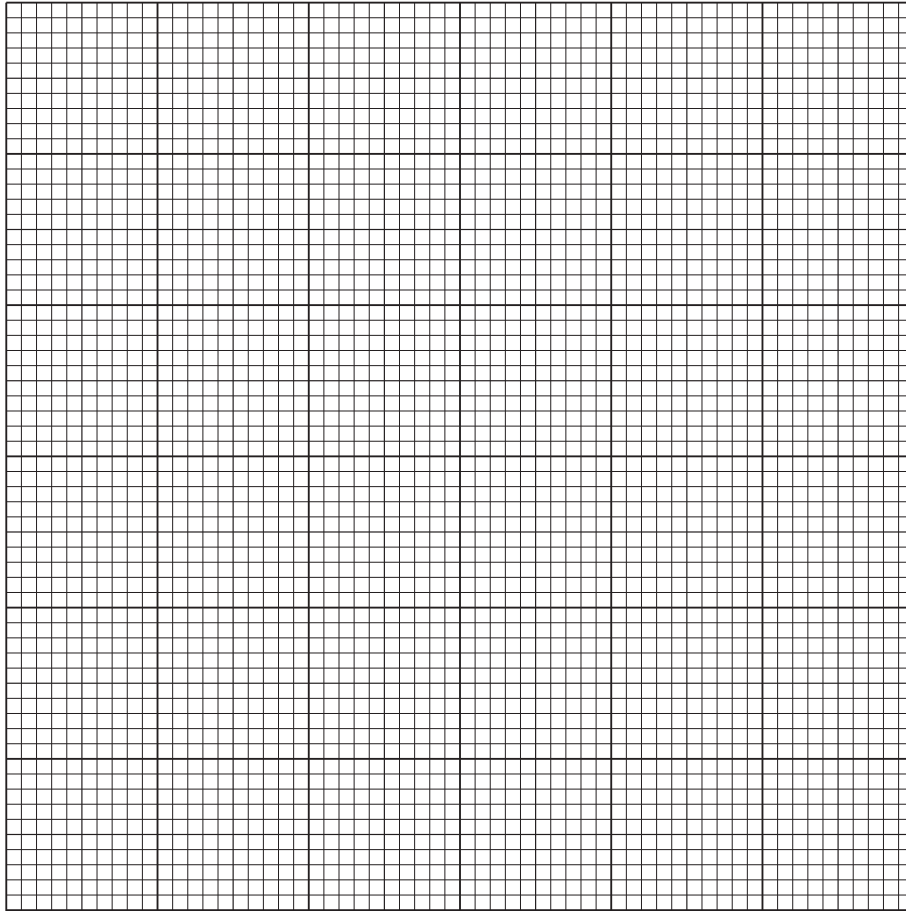

Fig. 1.3
- (ii) Plot a graph of the data in Table 1.3 on the grid in Fig. 1.3.
- (iii) Describe the trend shown by the graph in Fig. 1.3.